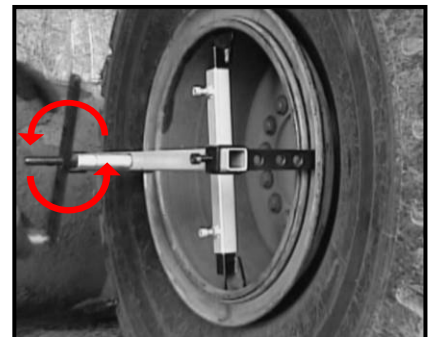

FIGURE 7
7. After the locking-ring is locked into place turn the hand crack counter clockwise until off of the threaded center rod (**Figure 7**).